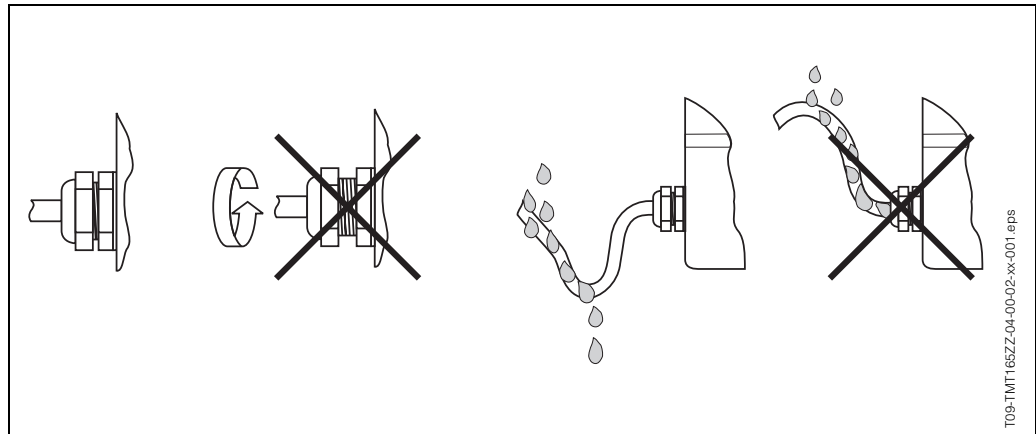

Fig. 4-4 Installation instructions for cable entries
- Firmly tighten the cable entries (Fig. 4-4).
- The cables must loop down before they enter the cable entries (“water trap”, fig. 4-4). This arrangement prevents moisture penetrating the entry. Always install the measuring device in such a way that the cable entries do not point upwards.